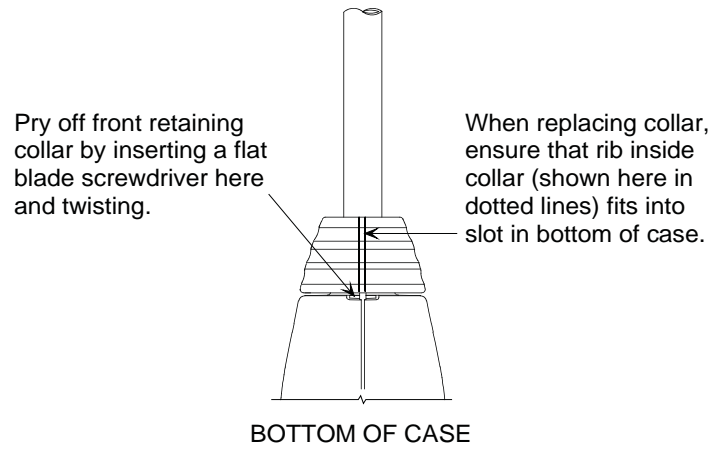

Figure 6. Front Retaining Collar Installation
3. Using a medium flat-blade screwdriver, first pry off the front retaining collar as shown in Figure 6. Then, remove the two case screws and pull the case halves apart.